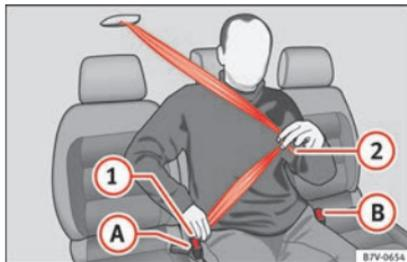

Fig. 90 Fasten the seat belt on the centre seat in the second row of seats
- Use latch plate of the belt » Fig. 90 ① to pull the seat belt down. Do **not** twist the seat belt when doing so » .
- Engage the latch plate ① in the buckle of the corresponding seat A.
- Use the latch plate » Fig. 90 ② to pull the seat belt across your lap.
- Engage the latch plate ② in the buckle of the corresponding seat B.
- Press the red button on the buckle » Fig. 90 A. The latch plate is released from the buckle.
- Press the red button on the buckle » Fig. 90 B. The latch plate is released from the buckle.